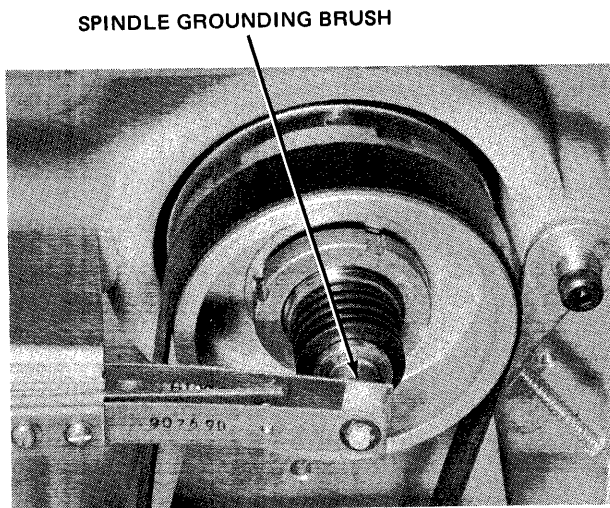

Figure 4-10. Spindle Grounding Brush
- a. With disk pack installed and disk drive powered-up utilize a voltohmmeter (VOM) and check for continuity from spindle shaft collar to deck plate assembly (see Figure 4-10).